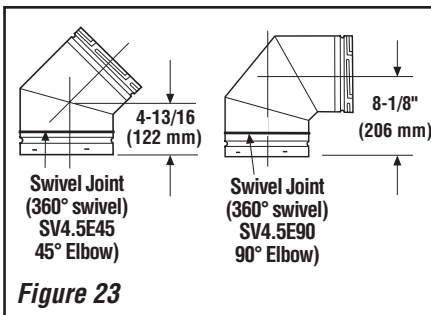

Figure 23
Analyze the vent routing and determine the number of vent sections and elbows required. Refer to *Vertical Vent Figures and Tables* on **Pages 17 and 18** to select the type of vertical installation desired. Refer to the *Vent Section Length Charts* on **Page 14** for an aid in selecting vent length combinations. Elbows are available in 45° and 90° configurations. Refer to **Figure 23** for the SV4.5E45 and SV4.5E90 elbow dimensional specifications.
F. Change vent direction to horizontal / inclined run - At transition from or to a horizontal / inclined run, install the SV4.5E45 and SV4.5E90 elbows in the same manner as the straight vent sections. The elbows feature a twist section to allow them to be routed about the center axis of their initial collar section to align with the required direction of the next vent run element. **Twist elbow sections in a clockwise direction only so as to avoid the possibility of unlocking any of the previously connected vent sections.** See *Figure 23*.
Analyze the vent routing and determine the types and quantities of sections required 4-1/2" (114 mm), 10-1/2" (267 mm), 22-1/2" (572 mm), 34-1/2" (876 mm) and 46-1/2" (1181 mm) net section lengths are available. Plan the vent lengths so that a section joint does not occur within the space defined by ceiling joists, roof rafters or wall studs. Make allowances for elbows as indicated in **Figure 23** on **Page 16**.